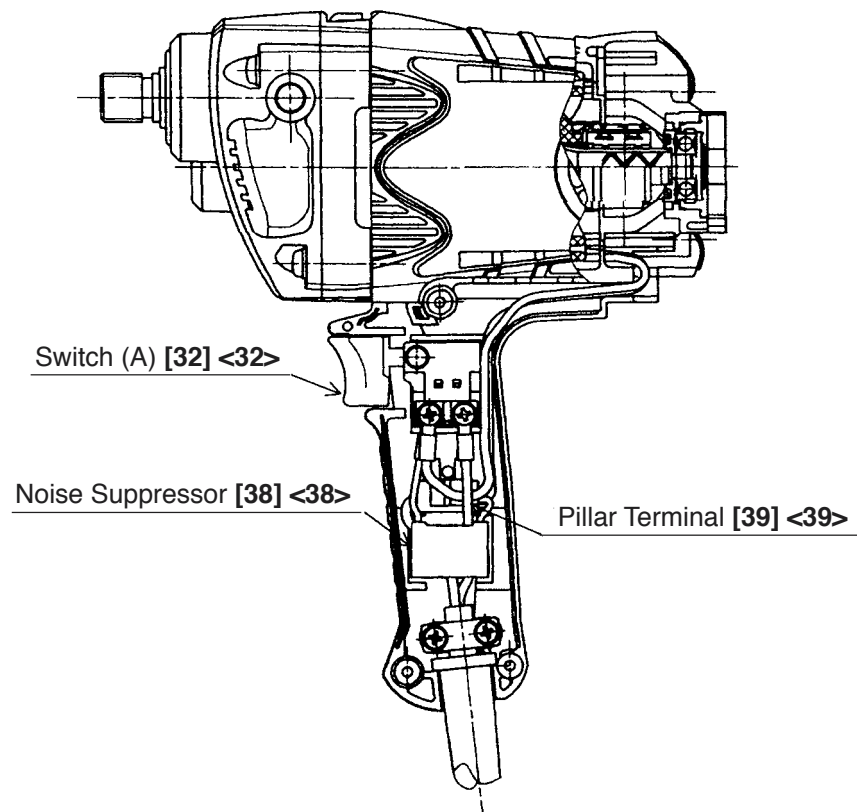
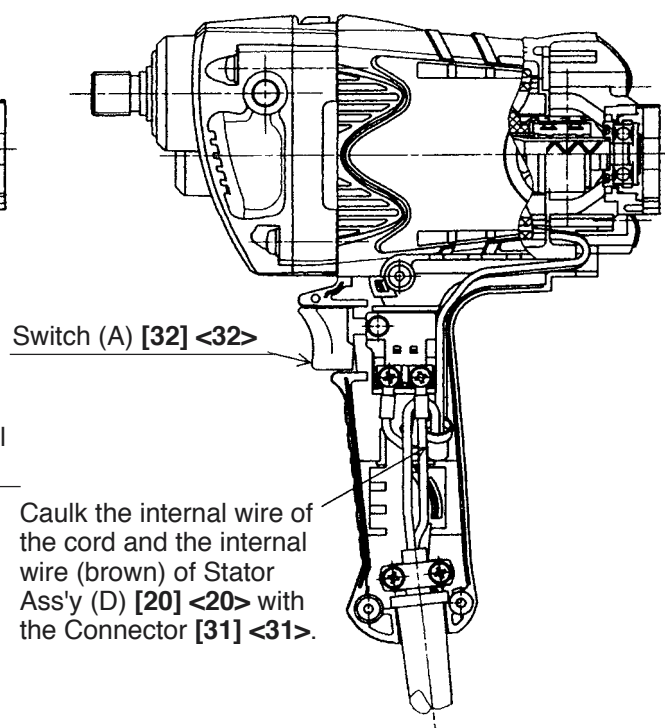

Fig. 14
Fig. 19
- (1) Check that the internal wires are wired and arranged properly as shown in Fig. 14 to Fig. 19.
- (2) Insert each internal wire into the grooves of the Housing Ass'y [24] <24> securely and be careful not to pinch the internal wires when mounting the Handle Cover [28] <28> and the Tail Cover [47] <47>.
- (3) If degradation is found on the grease inside the Gear Cover Ass'y [8] <8> at reassembly, remove the grease and apply 30 g of new grease to the inside of the Gear Cover Ass'y [8] <8>. Applicable grease is Nippeco JF-375 (Code No. 930036). Apply it to the First Gear [17] <17>, tooth portion of the Armature [12] <12> and the inner circumference of the needle bearing in the Inner Cover [9] <9>.
- (4) When replacing the Dust Seal [22] <22> and the Ball Bearing 608VVC2PS2L [23] <23>, be careful of the mounting direction of the Dust Seal [22] <22> so that the convex side faces the ball bearing and the concave side faces the commutator. When press-fitting the Ball Bearing 608VVC2PS2L [23] <23>, be careful of the press-fitting load. After press-fitting, check the Ball Bearing 608VVC2PS2L [23] <23> rotates smoothly. The Dust Seal [22] <22> is an important element to protect the Ball Bearing 608VVC2PS2L [23] <23> from dust. Be sure to mount the new Ball Bearing 608VVC2PS2L [23] <23> after disassembly.